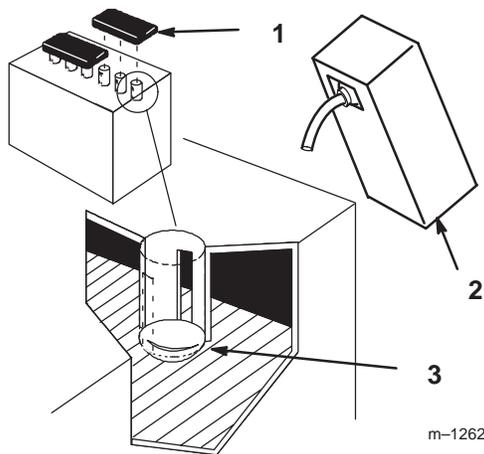

Figure 6
7. Remove filler caps from the battery. Slowly pour electrolyte into each cell until the electrolyte level is up to the lower part of the tube (Fig. 6).
10. Slowly pour electrolyte into each cell until the level is once again up to the lower part of the tube in the battery case and install covers (Fig. 6).